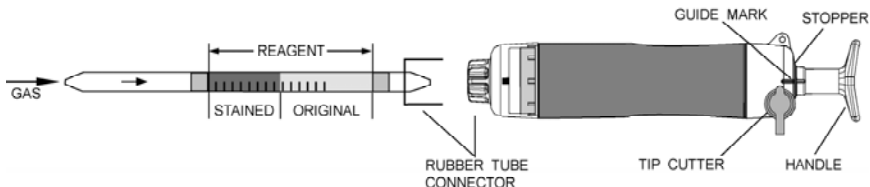

Fig.1
- ① Break both ends of detector tube.
- ② Insert the detector tube into aspirating pump securely as shown in Fig.1. (Arrow mark shall point to the pump.)
- ③ Align the guide marks on the handle and stopper of the aspirating pump.
- ④ Pull the pump handle at full stroke until it locks and wait for 3 minutes or until the completion of sampling is confirmed with the flow indicator of the pump (See descriptions about the flow indicator in the instructions of the pump).
- ⑤ On completion of sampling, read the scale at the maximum point of the stained layer.